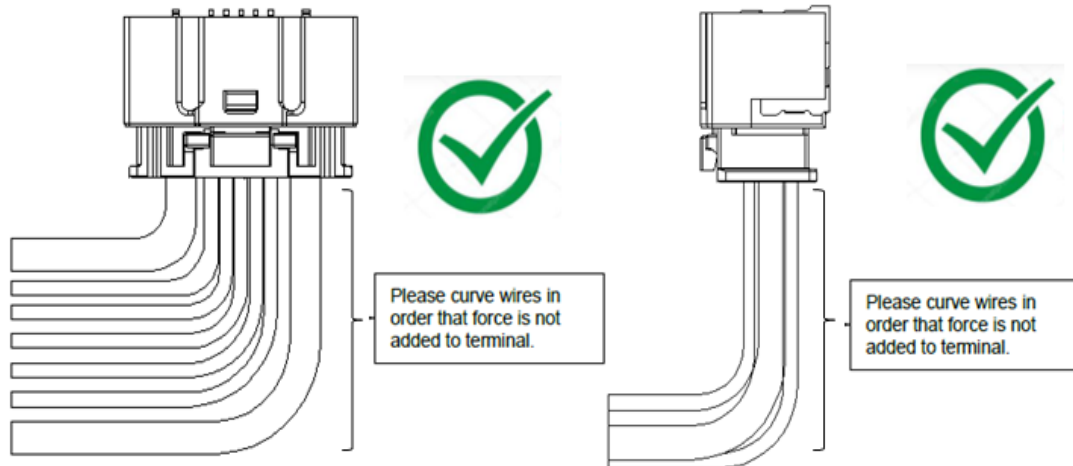

Fig 9.3.1 Condition wires are curved
- If you plan on pulling around wires inside machine, please take measures to prevent force from applying to connector directly, such as allowing wires to have enough flexibility.( Fig 9.3.1 )